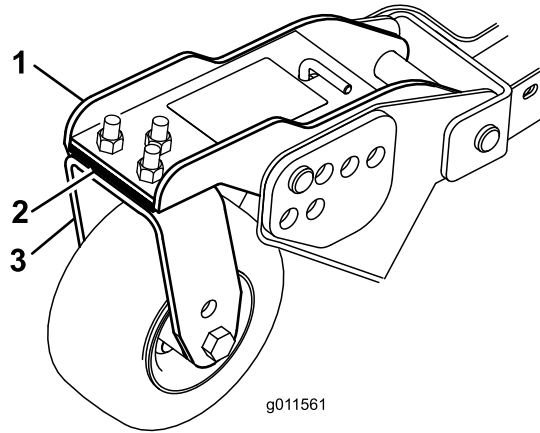

Figure 92
1. Remove the cap screws and nuts securing the caster arm to the caster fork (Figure 92).